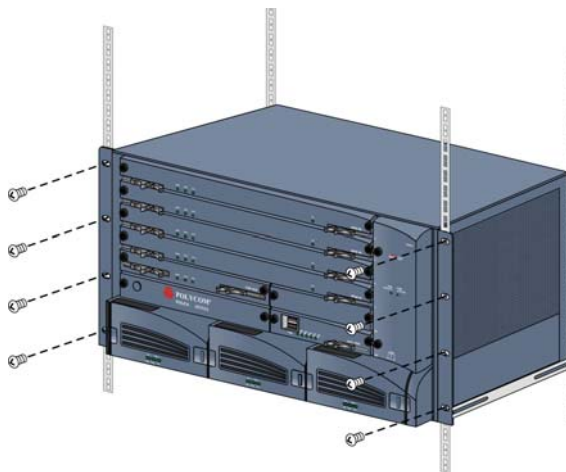

Figure 1-3 RMX 4000 Rack Mount
- 3** Fasten the RMX to the rack with 8 screws into the holes provided on the RMX's front as shown in Figure 1-3.
- 4 Fasten the RMX to the rack with 8 screws into the holes provided on the RMX's front as shown in Figure 1-3.